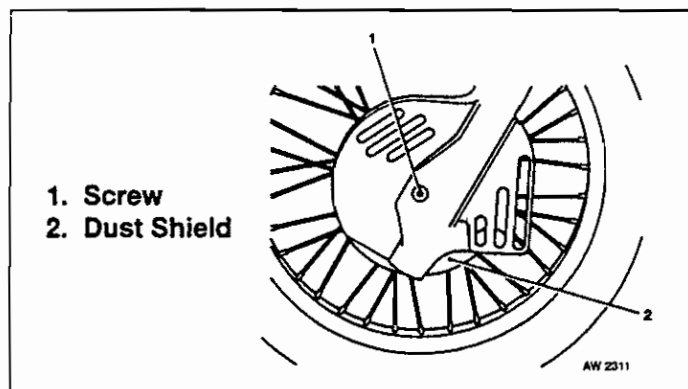

Fig 11.1 Front Brake Dust Shield
- a. Fig 11.1 refers. Remove screw, lock washer, flat washer, and front brake dust shield (2).
- k. Fig 11.1 refers. Install front brake dust shield, flat washer, lock washer and socket head screw.